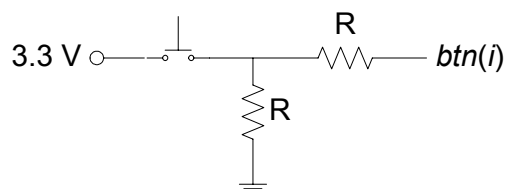

Figure 1.4 Pushbutton connection
- 1.1 The four pushbuttons on the BASYS and Nexys-2 boards are connected to pins on the FPGA using the circuit shown in Fig. 1.4. The value of  $R$  is  $4.7\text{ k}\Omega$  on the BASYS board and  $10\text{ k}\Omega$  on the Nexys-2 board. When the pushbutton is up the two resistors pull the input down to ground and the input  $btn(i)$  to the FPGA is read as a logic 0. When the pushbutton is pressed the input is pulled up to  $3.3\text{ V}$  and the input  $btn(i)$  to the FPGA is read as a logic 1. Create a *.bde* file using Active-HDL that will connect the four pushbuttons to the rightmost four LEDs. Compile and implement the program. Download the *.bit* file to the FPGA board and test it by pressing the pushbuttons.